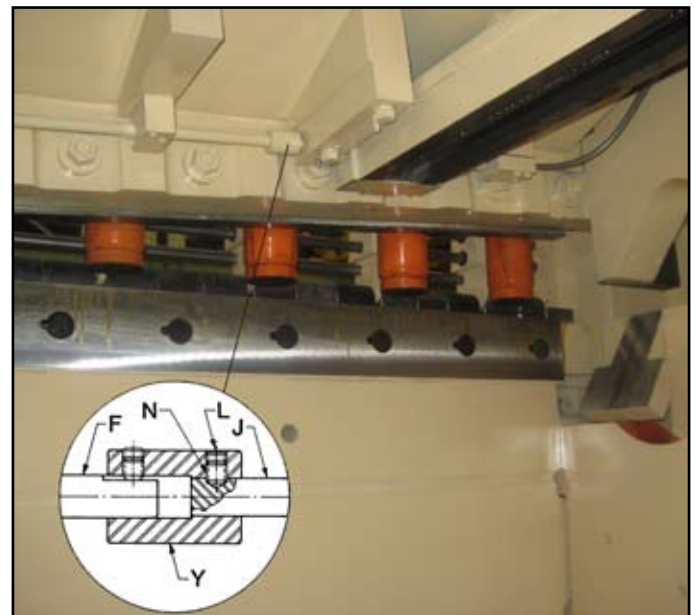

Figure 9-13 - Connecting Shaft Adjustment
- f. There are two couplings ("Y" on Figure 9-13) that connect the two backgage guides by means of connecting shaft "F". It will be necessary to loosen the coupling "Y" from the guide of the